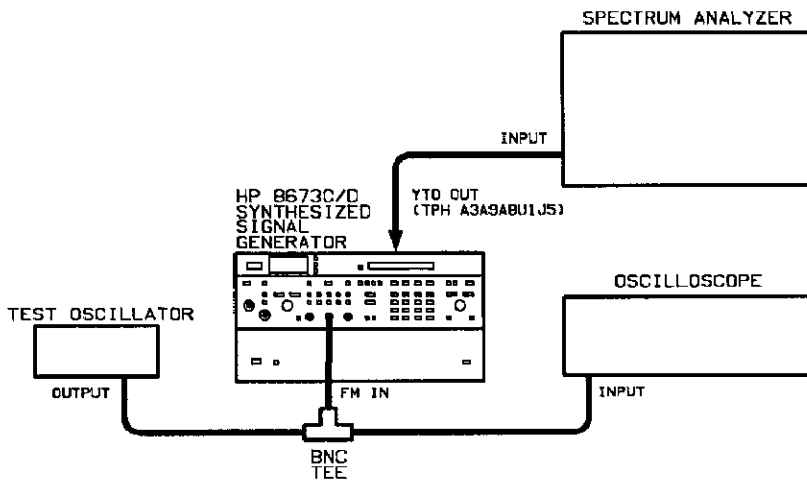

Figure 8-21. HP 8673C/D FM Test Setup
48. Press FM DEVIATION MHz 3 and MTR FM keys and verify both LEDs light. Connect the test equipment as shown in figure 8-21.